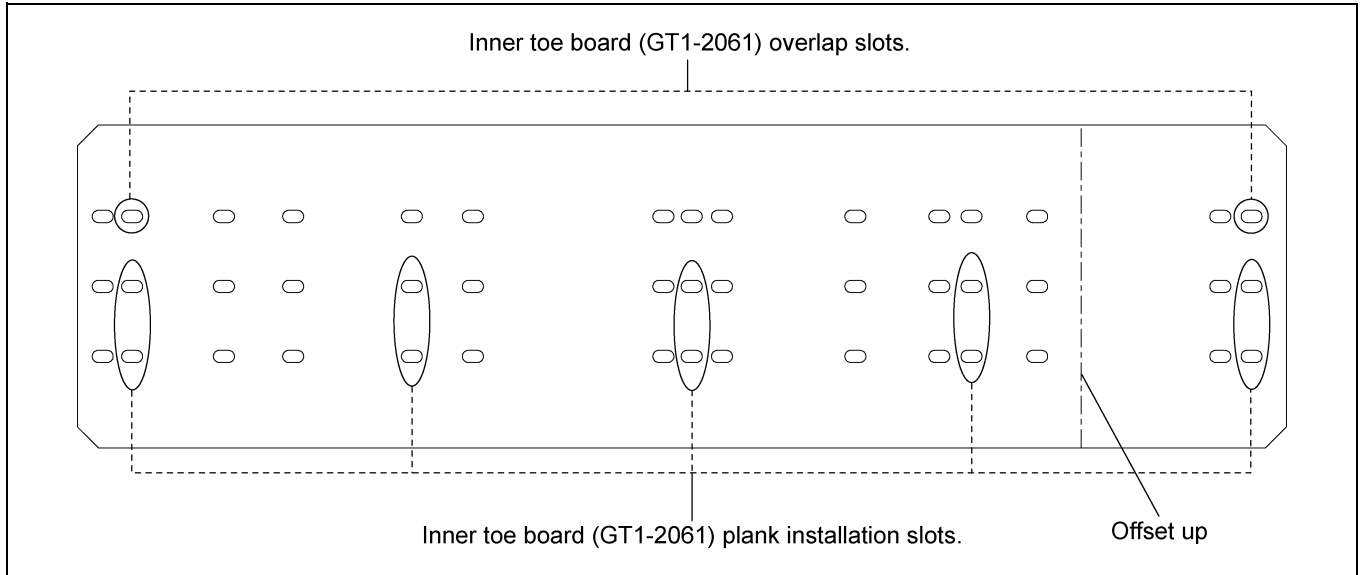

Figure 5K 30' Inner Toe Board (GT1-2061)
- Inner toe board is arranged with overlap slots on each side and plank installation slots. Install 30' inner toe boards (GT1-2061) to corresponding overlap and plank installation slots as shown in Figure 5K.